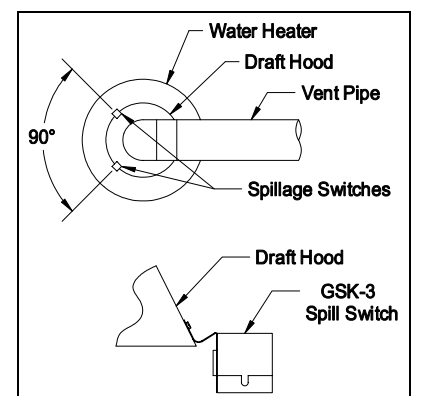

Figure 6
**NOTE:** Draft spillage switches must be mounted 90 degrees apart, and mounted opposite from the vent outlet direction. (See Figure 6)